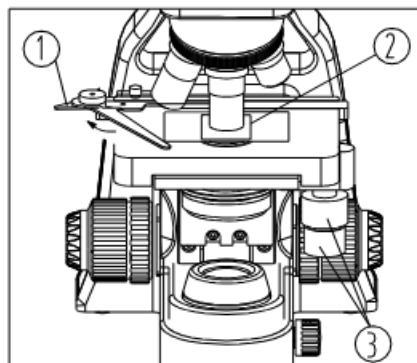

Fig. 15
1. Push the lever① of the specimen holder backwards.
2. Place the slide on the stage with the cover glass② facing upwards. Gently release the lever① and allow the clip to slowly close onto the slide and clamp the slide firmly(see Fig.15).